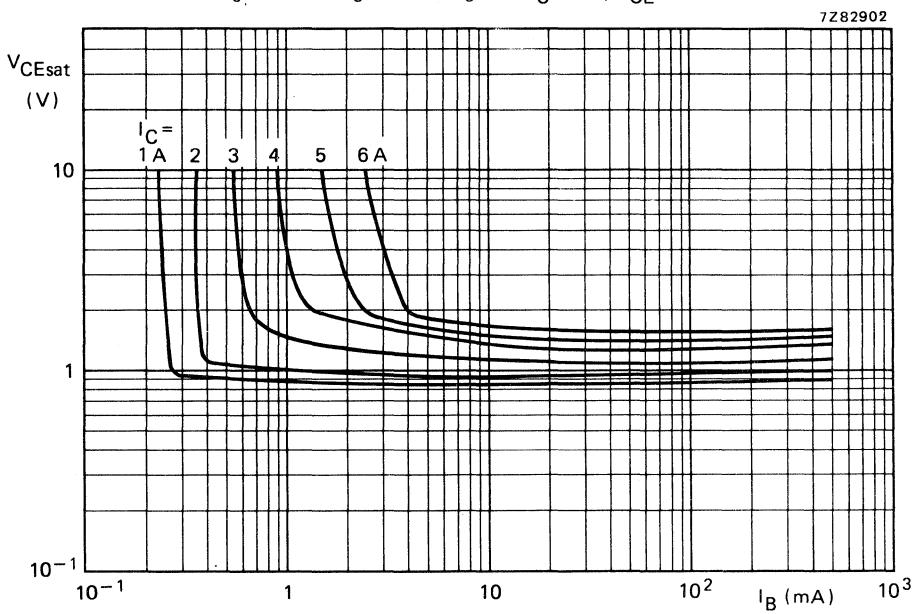

Fig. 12 Typical values collector-emitter saturation.  $T_j = 25$  °C.
**CHARACTERISTICS** $T_j = 25^\circ\text{C}$  unless otherwise specified**Collector cut-off current** $I_E = 0; V_{CB} = V_{CBO\text{max}}$  $|I_{CBO}| < 0,2 \text{ mA}$  $I_E = 0; V_{CB} = V_{CBO\text{max}}; T_j = 150^\circ\text{C}$  $|I_{CBO}| < 2 \text{ mA}$  $I_B = 0; V_{CE} = \frac{1}{2} V_{CEO\text{max}}$  $|I_{CEO}| < 0,5 \text{ mA}$ **Emitter cut-off current** $I_C = 0; V_{EB} = 5 \text{ V}$  $|I_{EBO}| < 5 \text{ mA}$ **D.C. current gain \*** $I_C = 0,5 \text{ A}; V_{CE} = 3 \text{ V}$  $h_{FE} \text{ typ. } 1900$  $I_C = 3 \text{ A}; V_{CE} = 3 \text{ V}$  $h_{FE} > 750$  $I_C = 6 \text{ A}; V_{CE} = 3 \text{ V}$  $h_{FE} \text{ typ. } 3000$ **Base-emitter voltage \*\*** $I_C = 3 \text{ A}; V_{CE} = 3 \text{ V}$  $V_{BE} < 2,5 \text{ V}$ **Collector-emitter saturation voltage** $I_C = 3 \text{ A}; I_B = 12 \text{ mA}$  $V_{CE\text{sat}} < 2 \text{ V}$ **Cut-off frequency** $I_C = 3 \text{ A}; V_{CE} = 3 \text{ V}$  $f_{hfe} \text{ typ. } 50 \text{ kHz}$ **Turn-off breakdown energy with inductive load (see Fig. 12)** $-I_{Boff} = 0; I_{Con} = 4,5 \text{ A}$  $E_{(BR)} > 50 \text{ mJ}$ **Diode forward voltage** $I_F = 3 \text{ A}$  $V_F \text{ typ. } 1,8 \text{ V}$ **D.C. current gain ratio of complementary matched pairs** $I_C = 3 \text{ A}; V_{CE} = 3 \text{ V}$  $h_{FE1}/h_{FE2} < 2,5$ **Small signal current gain** $I_C = 3 \text{ A}; V_{CE} = 3 \text{ V}; f = 1 \text{ MHz}$  $h_{fe} > 10$ **Second-breakdown collector current** $V_{CE} = 60 \text{ V}; t_p = 25 \text{ ms}$  $I_{(SB)} > 1 \text{ A}$ **Switching times**